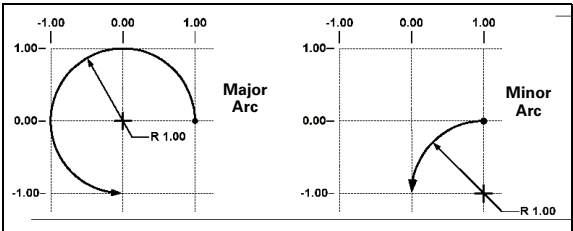

Fig. I.51
**Major and Minor Arcs** - A Major arc has a sweep angle greater than 180 degrees. A Minor arc has a sweep angle less than 180 degrees. See Fig. I.51 as a graphic example of the two types of angles.